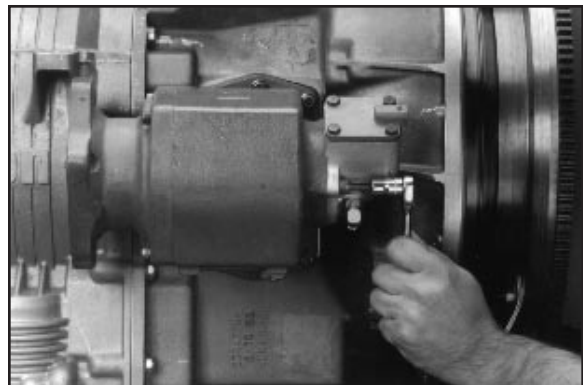

Fig. 8
8. Rotate the valve cap to one of two positions to provide maximum clearance (**Fig. 8**).